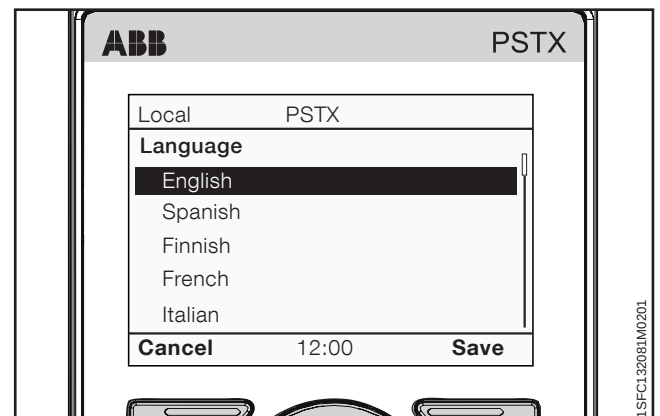

Figure 6.37
5. Use  and  to select language. See **Figure 6.37**.